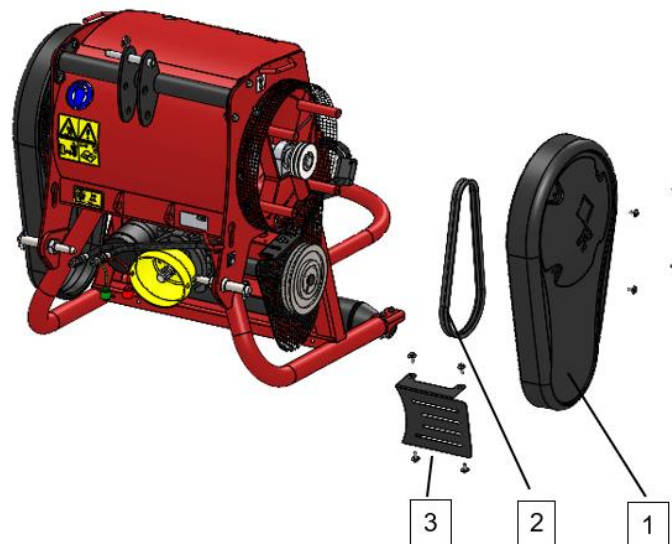

Fig. 13
3. Make the gearbox accessible by removing the side cover, V-belts and drive cover and tilt the tensioner forward, see Fig. 13 and the partspage for details.